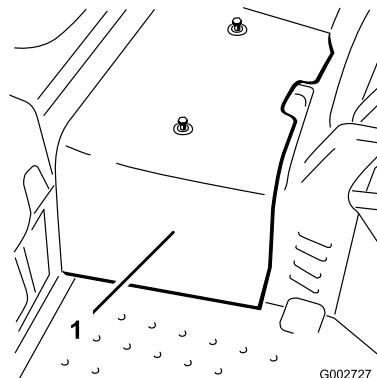

Figure 41
- Remove the 2 screws securing the center shroud to the machine and remove the shroud (Figure 41).